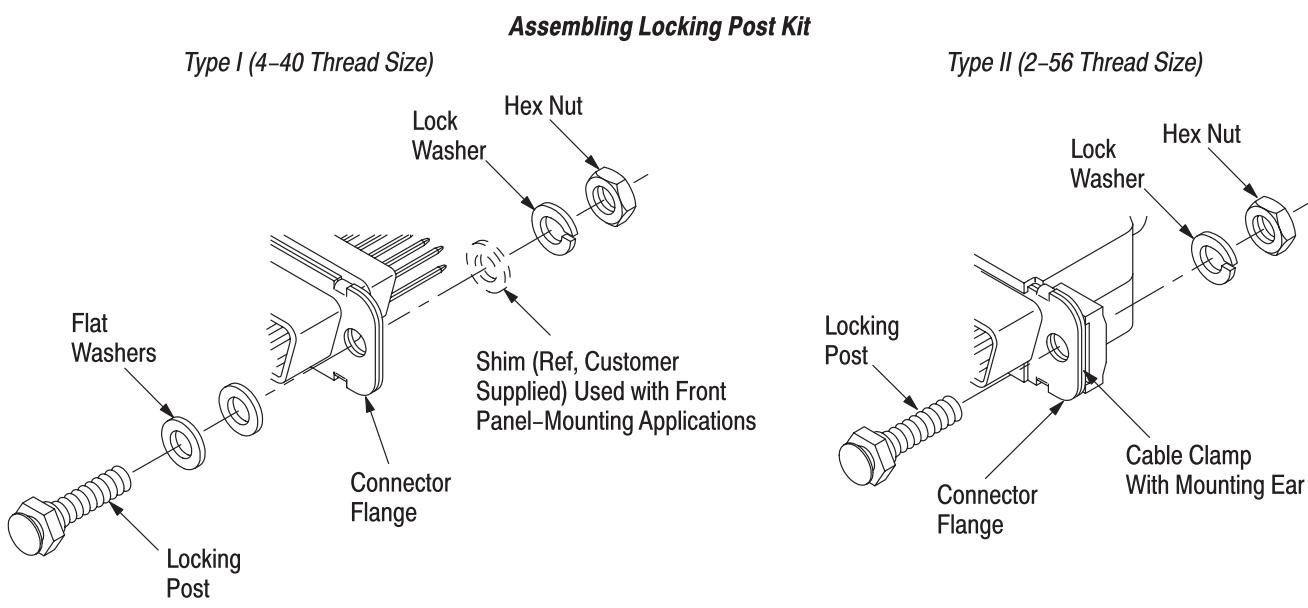

Figure 5
### 3.3. Locking Post Kits (See Figure 5)
*For front panel mounting, it is recommended that a shim be used between the connector flange and panel to prevent bowing of the flange. Shims are not supplied with kit. See Figure 5.*